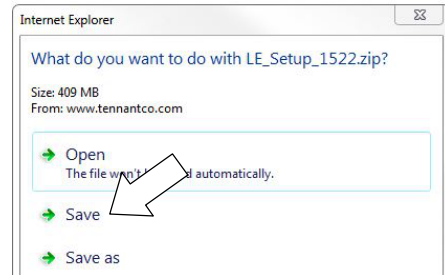

Fig. 23
3. Within the Service Application Software page, click on the link titled “Service Diagnostics LE version x.x.xx” to download the application installer then click the Save button (Figure 23).